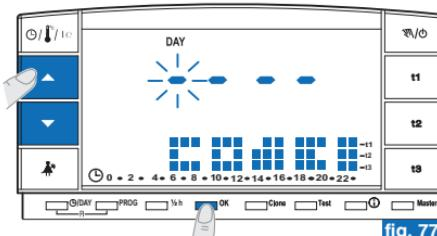
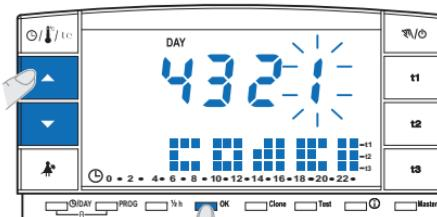

fig. 77
fig. 78
A **COdE II** message and the first hyphen to the left will blink on the display (fig. 77); enter the **new password** with keys **▲▼**, then press **OK** to confirm each entered value (example in fig. 78).
- When a **COdE II** message appears on the display, enter 4 hyphens as the password (- - -) and confirm each "hyphen" by pressing **OK** (fig. 77).